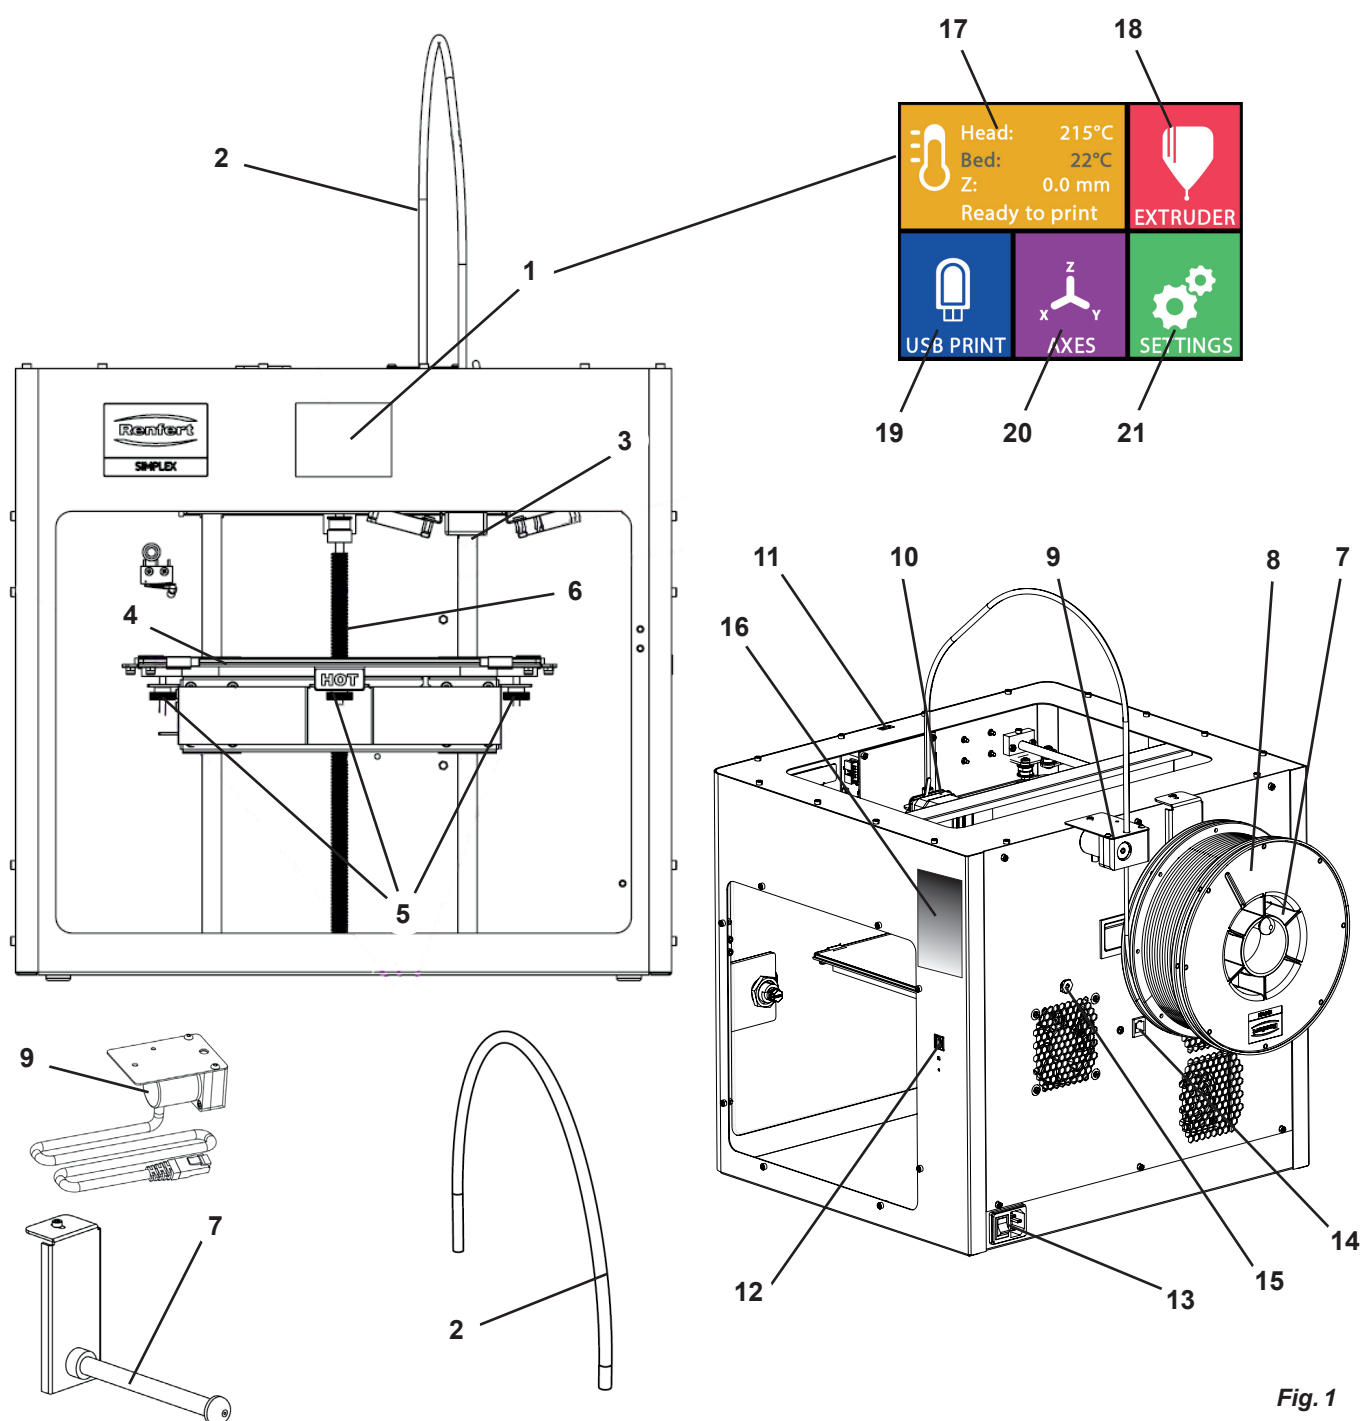

Fig. 1
- ⇒ Switch the unit on using the on/off switch (13, Fig. 1) on the rear of the unit.